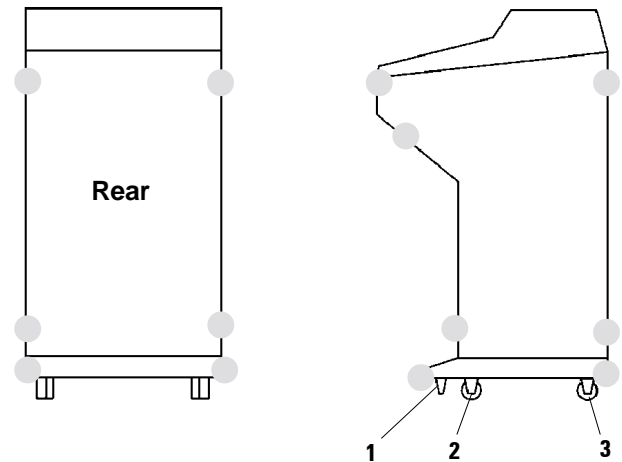

Fig. 11
**The instrument must be transported in an upright position, or at an angle of max. 30°! Do not grip the cabinet at the lid. Grip the cabinet only at the marked areas (○), which are reinforced for transporting (Fig. 11).**